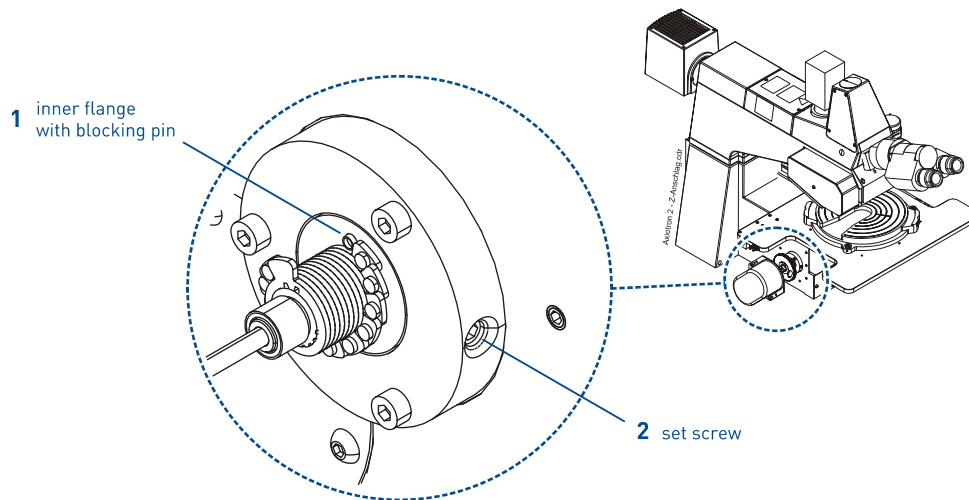

figure 41 The left-hand side of the focus drive
- At a certain point the stage will not follow anymore. A mechanical (lower) end stop is engaged. All washers (see figure 41) are lined up, and the blocking pin 1 (in figure 41) forms the end of the washer stack.
- If the image becomes crisp and the washers haven't blocked the upward movement yet, even though the set screw (2 in figure 41) was tightened, the amount by which the inner flange was rotated did not suffice. Repeat this procedure from the beginning and let establish the lower end stop at a lower position.
- Slacken the set screw (2 in figure 41) and carefully move the focus drive further upward.